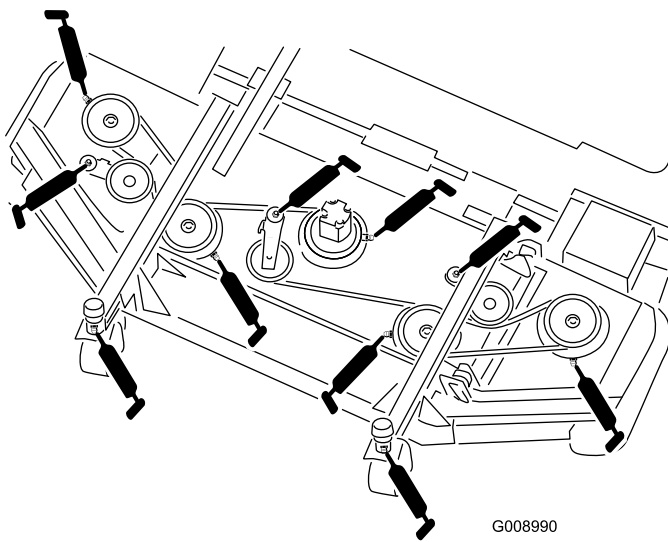

Figure 54
- Castor fork shaft bushings (2) (Figure 54)
- Spindle shaft bearings (5) (located on spindle housing) (Figure 54)
- Idler arm pivot bushings (3) (located on the idler pivot shaft) (Figure 54)